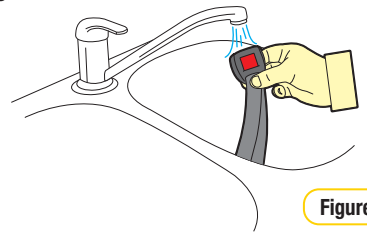

Figure 2
- Step 2:** Place the Harness Buckle under warm (max. 40 degrees Celsius) running water as shown below. Let the water run through the mouth of the buckle for five minutes. Do not immerse the harness in water (refer Figure 2).